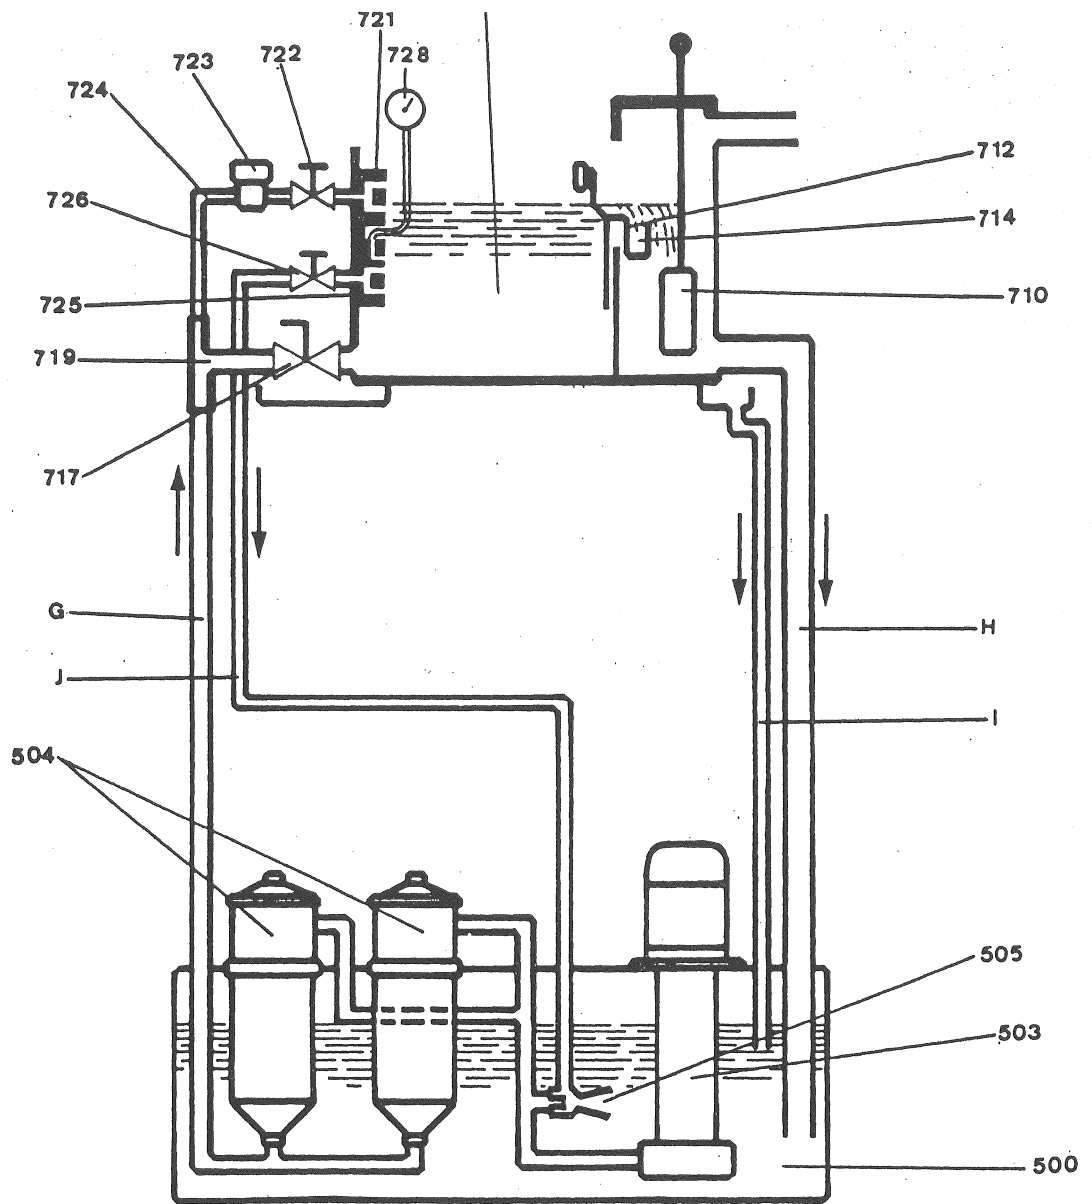

Fig 1
8.11 ELECTRICAL CIRCUIT (fig. 1)
- 582 Electrical junction box of the dielectric tank. From this junction box, connections are made to the motor pump units (503) (590), to the thermostat (522) and to the solenoid-valve (523).
- 852 Socket for the cable "A". The other end of this cable is part of the machine. A terminal strip is provided for the interconnections between cables "A", "C", and "F", and for those between the solenoid-valve (723), the thermostat (716) and the float-switch (714).